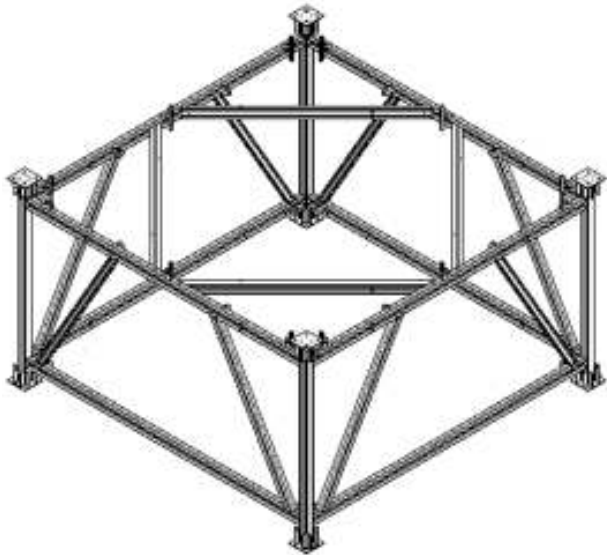

Fig. 7.1
8. Attachment of 12 SP-guard-railing post adapters to the SP-frames (Fig. 7.1). The connection between the SP-guard-railing post adapters and the SP-frame is made by means of 2 x 2 hexagonal bolts M12x35 with washer M12 and hexagonal locking nut M12.